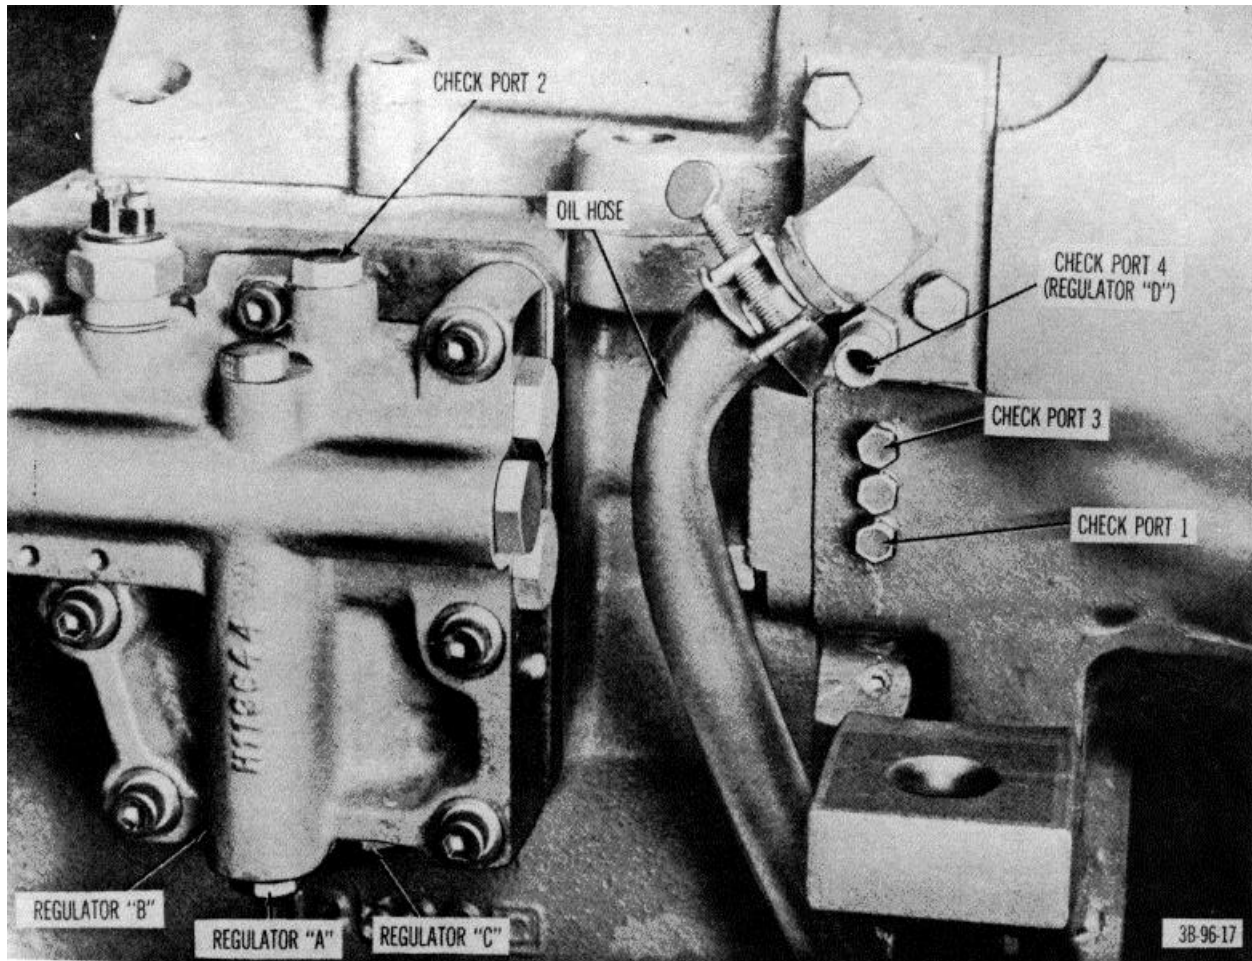

Figure 29. Left side view of transmission and control valve, showing oil check ports.
- (1) With transmission oil at operating temperature, attach pressure gages of sufficient capacity in check ports (fig. 29).